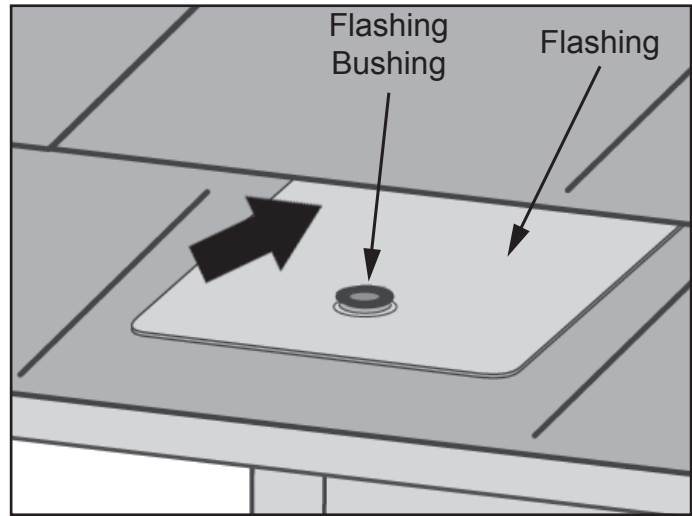

Figure 12.
2. Insert the flashing (not included with Standard Systems) so the top part is under the next row of shingles and the flashing hole/grommet aligns with the mounting hole. See Figure 12.